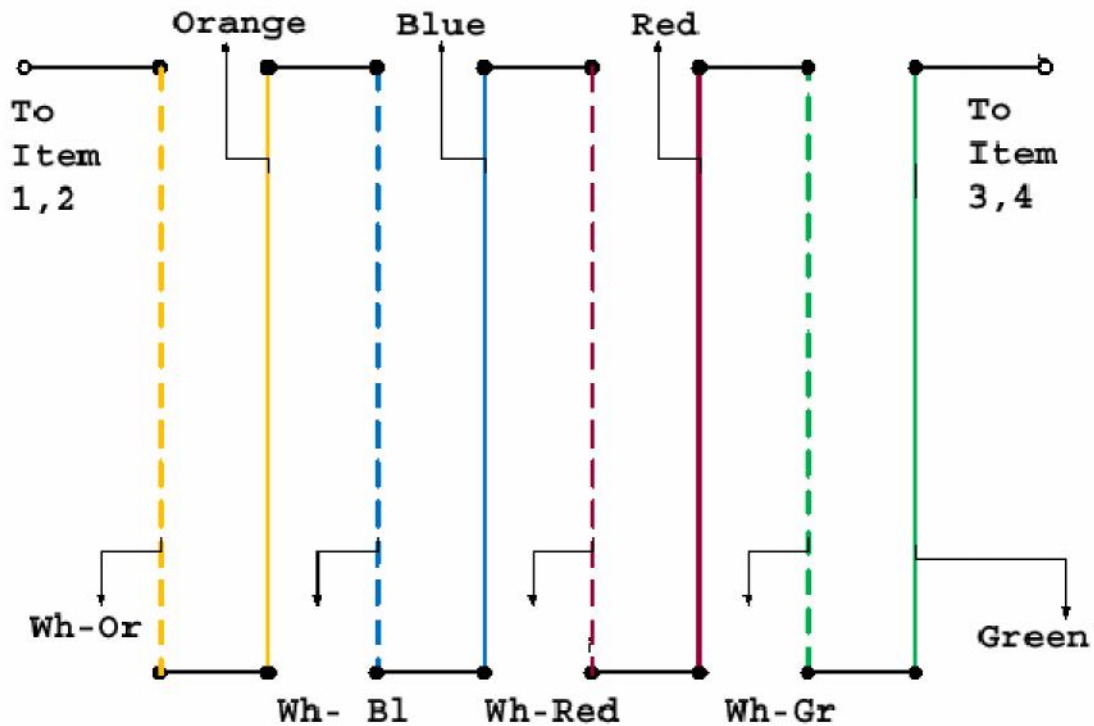

Figure 2
Antenna is lengthened with help of coils *item 6* and *item 7*. The coils made from length of an Ethernet Cable, 17 meter each. RA3ARN used Ethernet Cable with mark on it: NEXANS UTP KATEGOR 5E TIA 568-5EC VERIFIED 11168 4PR 24AWG SU3505. Almost any 4- pair Ethernet Cable may be used for the coils. **Figure 2** shows diagram of the coil. All twisted pairs are connected in serial. Then the cable was coiled in a hank of 40- cm diameter. Soldered ends were protected from weather conditions with help of a thermo- shrink tube.